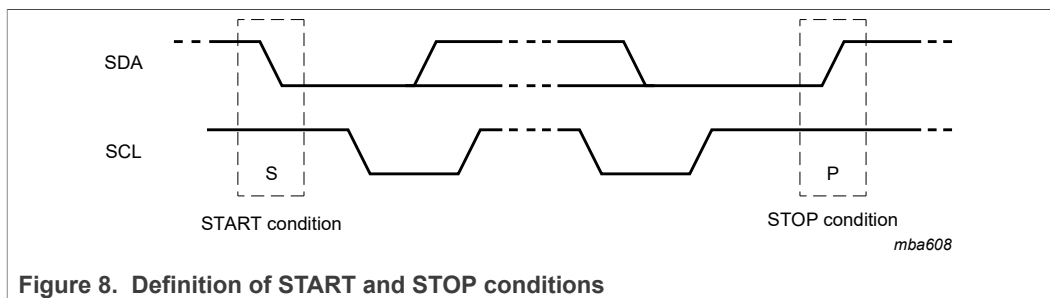

Figure 8. Definition of START and STOP conditions
Both data and clock lines remain HIGH when the bus is not busy. A HIGH-to-LOW transition of the data line while the clock is HIGH is defined as the START condition (S). A LOW-to-HIGH transition of the data line while the clock is HIGH is defined as the STOP condition (P) (see Figure 8).